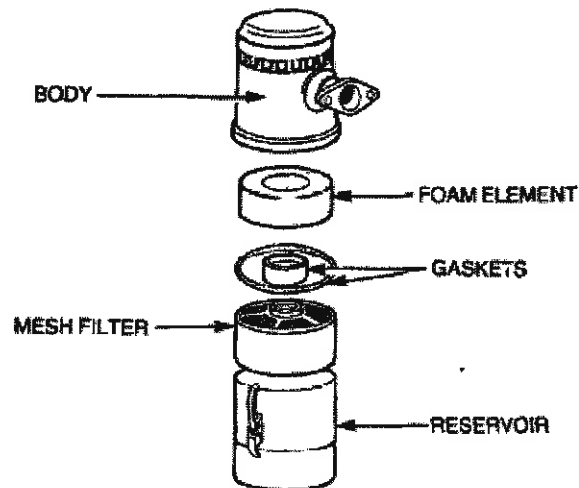

Figure 16 Air Cleaner Assembly - Exploded View
- a.** Unclip the two fasteners securing the oil reservoir to the air cleaner assembly body (Figure 16).